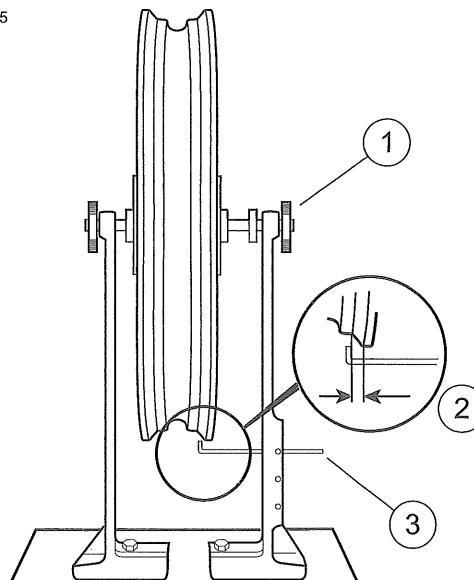

Figure 3-20. Checking Lateral Runout
- See Figure 3-20. Adjust the gauge rod (3) near to the rim bead flange. If using a dial indicator, place the tip against the bead flange.
- Rotate the rim slowly to check lateral runout (2). If runout exceeds 0.030 in (0.76 mm), adjust spokes: